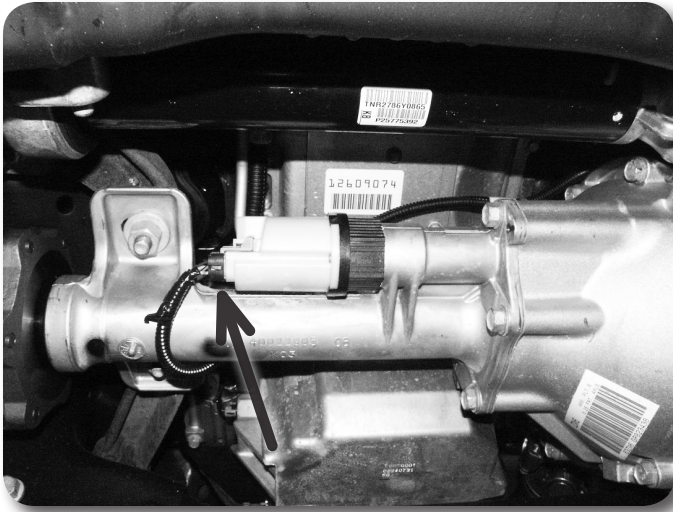

Figure 10
17. Disconnect the differential actuator wire connector from the actuator **Figure 10**. Remove the three wire harness clips holding the actuator harness to the differential housing.
21. Support the front differential with an appropriate jack. Remove the two driver's side differential mounting bolts **Figure 13** and the two passenger's side mounting nuts **Figure 10**. Carefully lower the differential to the ground. Save mounting hardware.